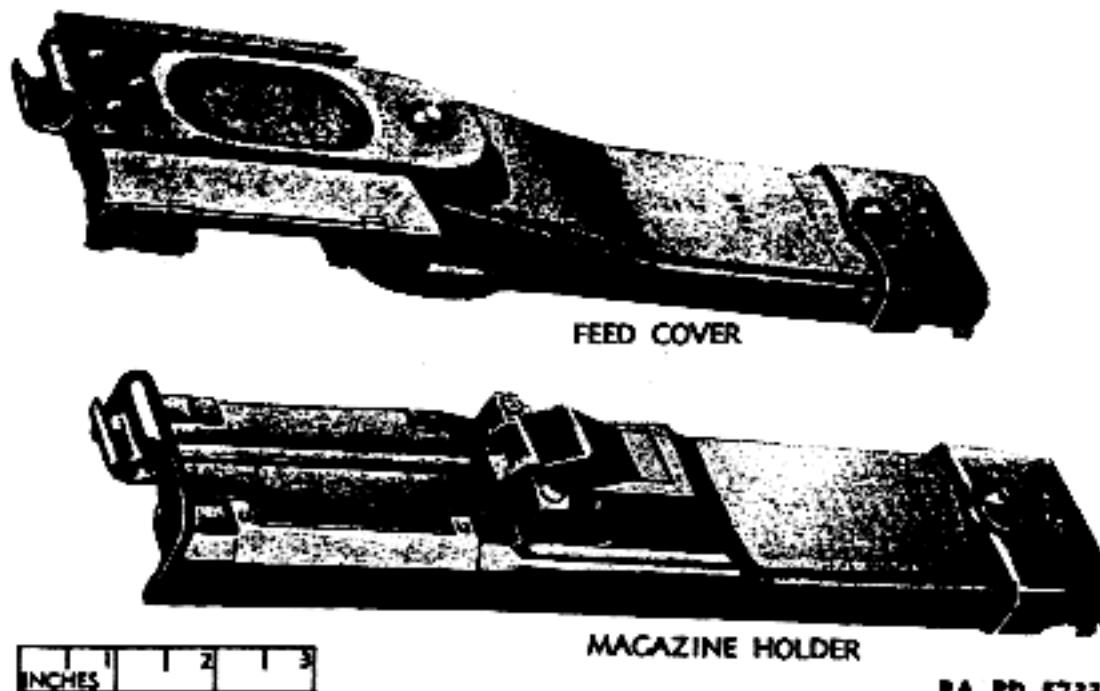

Figure 23 - Feed Cover and Magazine Holder - Top View
(1) To load the machine gun with the 75-round magazine, it is necessary to remove the feed cover and feed block, and to replace these with the magazine holder. To facilitate identification, the feed cover and magazine holder are compared in figures 23 and 24.